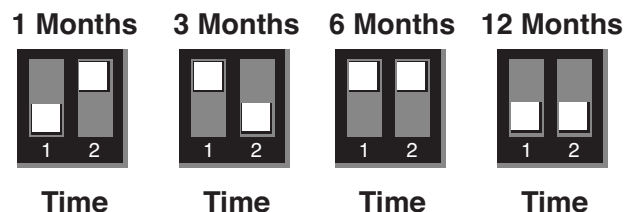

FIG. 4
2. Use a small screwdriver or your finger to move dip switches to the desired position. Refer to FIG. 4.
- In FIG. 4 the white square indicates dip switch position.
There are 4 switch position options: 1, 3, 6 and 12 months. Refer to FIG. 4 for correct position for each option.